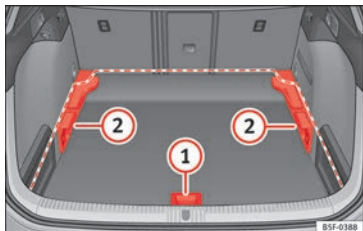
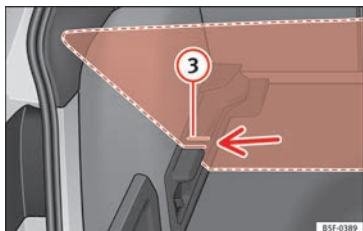

Fig. 181 Luggage compartment variable floor: positions.
Fig. 182 Luggage compartment variable floor: grooves tilted.
- Lift the floor using handle »» **Fig. 181** (1) and pull it back until the front of the floor has fully passed the supports (2).
- Move the floor forward over the supports as far as the rear seat backrest and then lower the floor with the handle (1).
- Now match the front part with the lower grooves of the supports and slide the floor forwards as far as the rear seat backrest and lower the floor at the same time with the handle (1).
- Lift the variable floor using handle »» **Fig. 181** (1) and pull it back until the front of the floor has fully passed the tilted grooves »» **Fig. 182** (3).
- Run the floor through these grooves with the help of handle (1) as the rear seat backrest and until the floor is resting in the grooves.